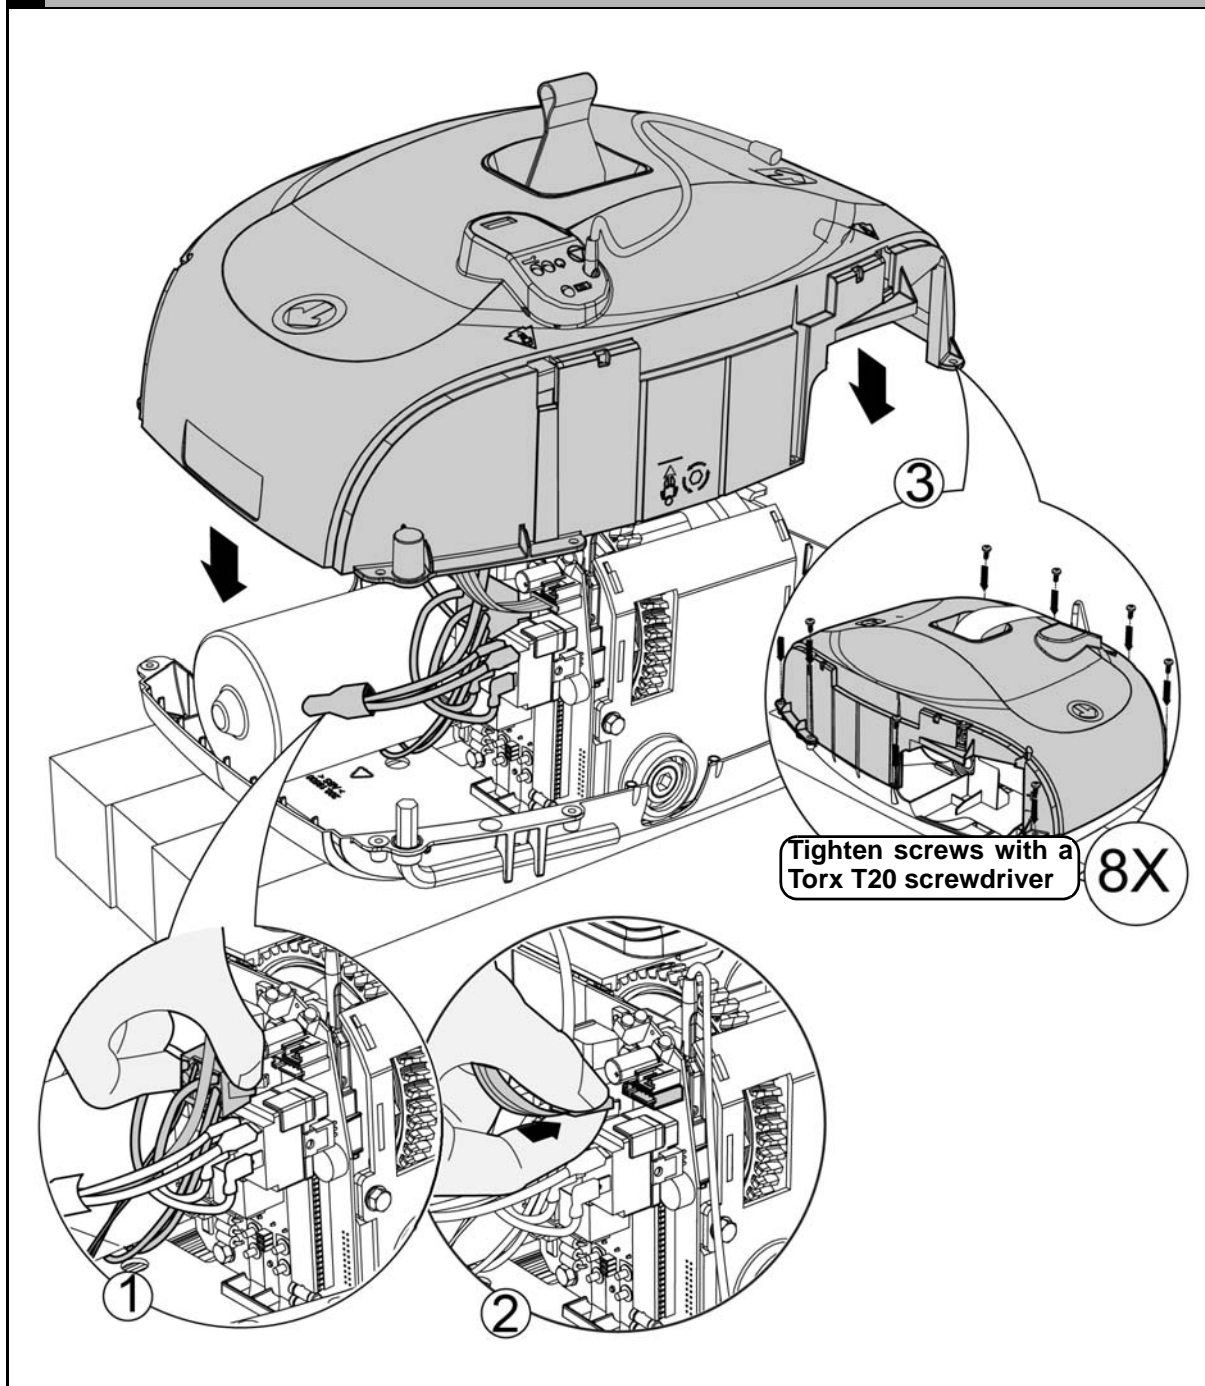

Fig. 29
- ① Replace the three screws that secure the motor to the motor support plate.
- ② Replace the gear fully on the motor shaft.
- ③ Install and tighten the two screws located in the corners of the motor support.
- ④ Reinstall the top plastic cover (see Fig. 29), the handset (see Fig. 13) and the batteries (see Fig. 14).